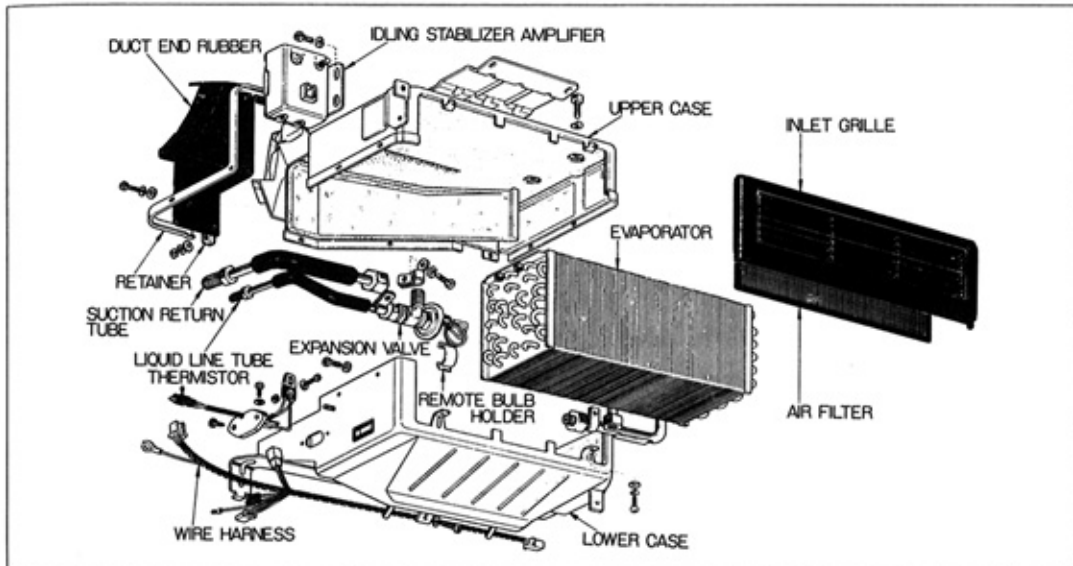

Fig. 82
- e) Remove four fixing bolts for cooling unit from the instrument panel, cooling unit bracket and dash panel, and remove the cooling unit. See Fig. 82.